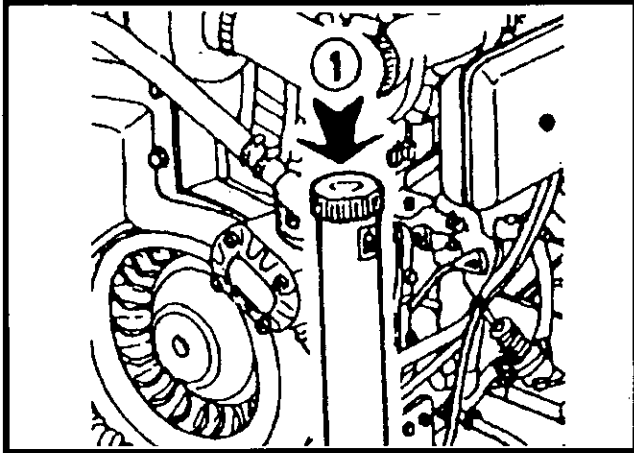

Figure 4-1 Fuel Filler
6. Check fuel tank (1, Figure 4-1) to determine fuel level. If required, add clean, filtered fuel through the fill area marked . Refer to Section 8 - Fuel and Lubricant Specifications.